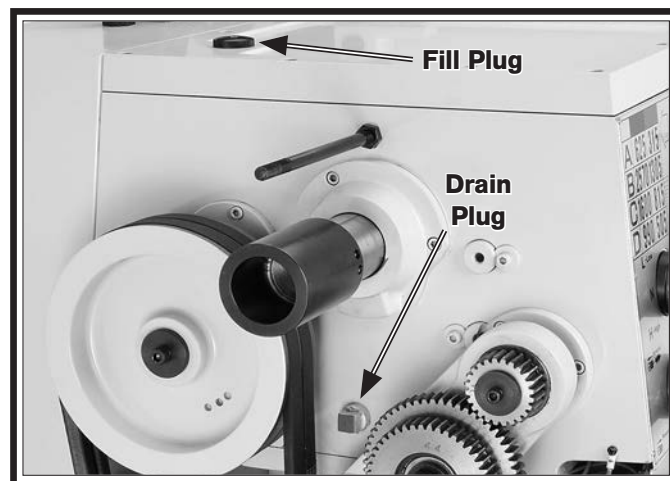

Figure 100. Headstock fill and drain plugs.
The oil fill plug is located on top of the headstock, as shown in **Figure 100**.
5. Place the catch pan under the headstock drain plug (see **Figure 100**), then remove the plug.